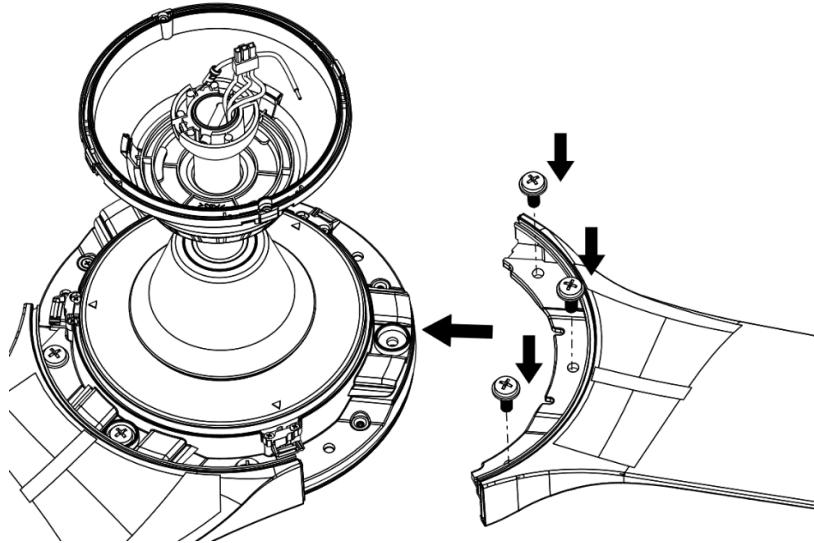

Fig. 5.2
2. Install the fan blades onto the motor assembly by the three fan blade screws provided; (Fig.5.2)